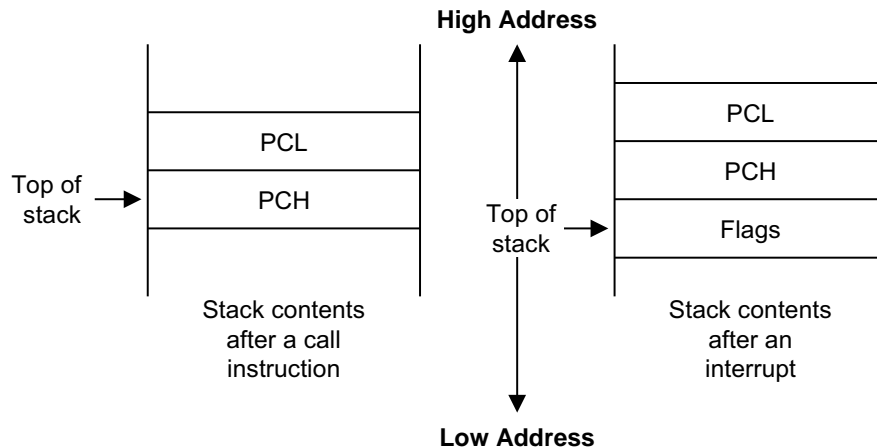

Figure 28. Stack Operations
Return addresses for procedure calls, interrupts, and data are stored on the stack. The contents of the PC are saved to stack by a CALL instruction and restored by the RET instruction. When an interrupt occurs, the contents of the PC and the Flags registers are pushed to the stack. The IRET instruction then pops these values back to their original locations. The stack address value is always decreased by one before a push operation and increased by one after a pop operation. The stack pointer (SP) always points to the stack frame stored on the top of the stack, as shown in Figure 28.